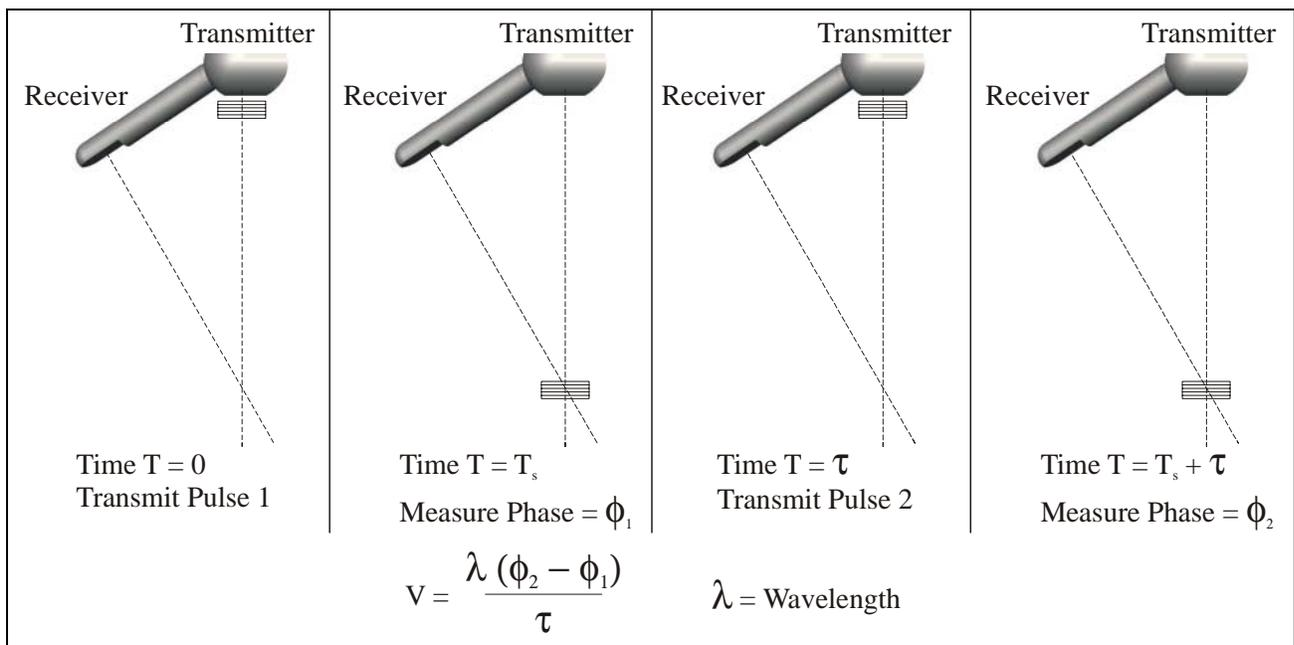

Figure 4 – Pulse-Coherent Processing
- The Triton uses pulse-coherent processing (Figure 4).